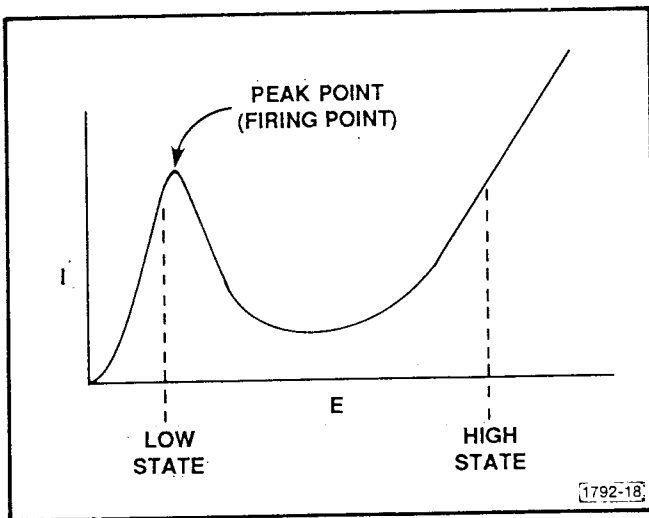

Fig. 3-4. Tunnel Diode Voltage/Current Curve
1. During time slot 1, all current is removed from the tunnel diode which resets it to low. Low is on the low voltage side of the peak current point (see Figure 3-4).